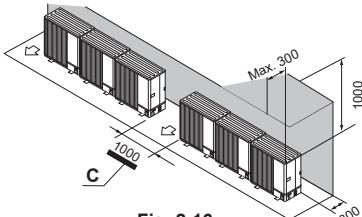

Fig. 2-16
- (2) Obstructions or closed surfaces at rear and above only (Fig. 2-16)